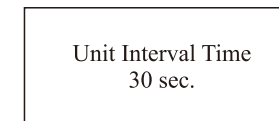

Figure 10
D. Unit interval time setting, as shown in Figure 10, the setting method is the same as filtration working time.